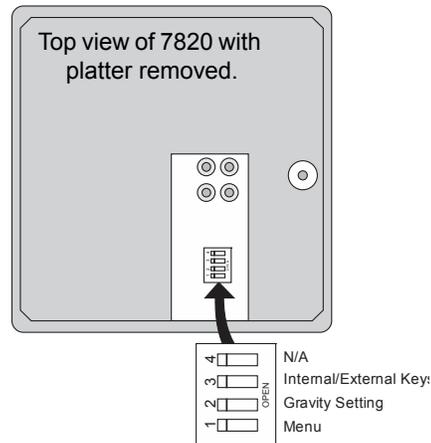
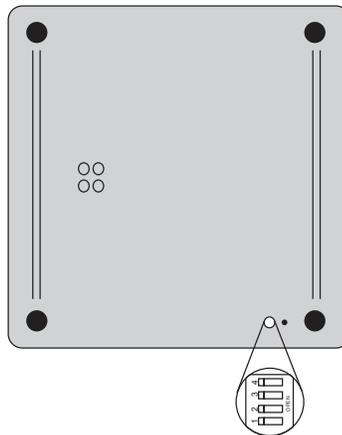

Figure 5.1 7820 switch location
Figure 5.2 7824, 7829, 7840, 7880, 7885 switch location
The 7800 models power up ready for weighing operations. Access the Menu mode by setting Switch 1 shown in Figure 5.1 or Figure 5.2 to the OPEN or Menu mode position.
Access the Gravity setting mode by setting Switch 2, shown in Figure 5.1 and Figure 5.2, to the OPEN or Gravity mode position.
1. From normal weighing mode, move Switch 1 to the MENU Mode or OPEN position. (See Figure 5.1 or Figure 5.2).